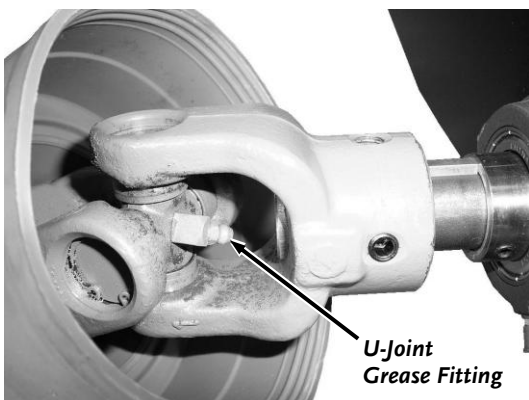

Figure 24
2. Apply no more than three pumps of quality general-purpose lithium grease with a hand-pumped grease gun to each of the two U-Joint Grease Fittings (Figure 24).